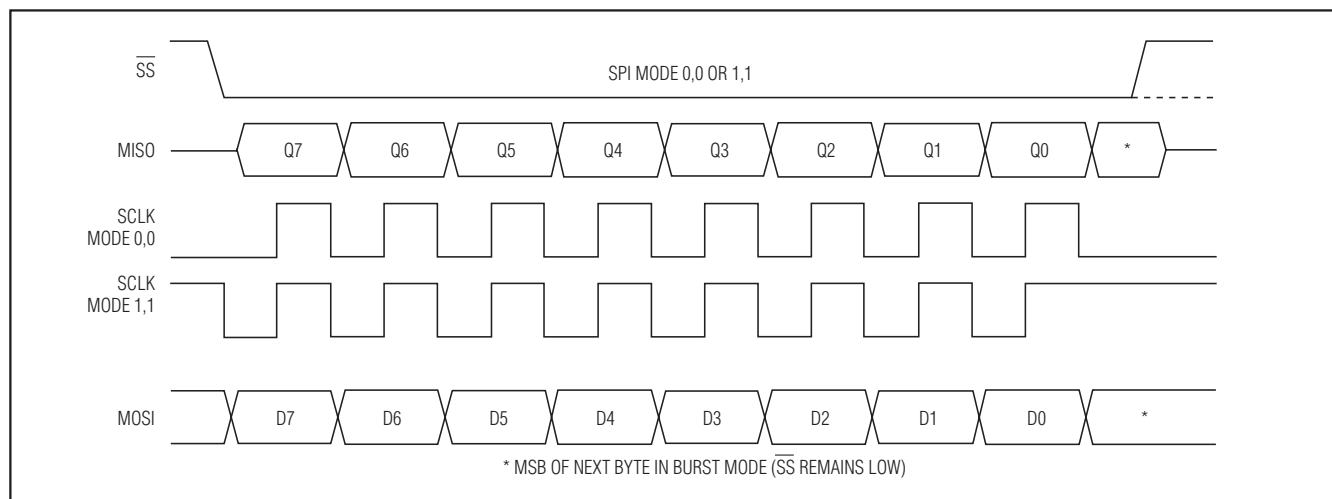

Figure 14. SPI Clocking Modes
The SPI master provides the MAX3420E SCLK signal to clock the SPI interface. SCLK has no low-frequency limit, and can be as high as 26MHz. The MAX3420E changes its output data (MISO) on the falling edge of SCLK and samples input data (MOSI) on the rising edge of SCLK. The MAX3420E ignores SCLK transitions when  $\overline{SS}$  is high. The inactive level of SCLK may be low or high, depending on the SPI operating mode (Figure 14).
The MAX3420E SPI interface operates without adjustment in either SPI mode (CPOL = 0, CPHA = 0) or (CPOL = 1, CPHA = 1). No mode bit is required to select between the two modes since the interface uses the rising edge of the clock in both modes. The two clocking modes are illustrated in Figure 14. Note that the inactive SCLK value is different for the two modes. Figure 14 illustrates the full-duplex mode, where data is simultaneously clocked into and out of the MAX3420E.
- (1) When  $\overline{SS}$  is high, the MAX3420E is unselected and tri-states the MISO output.
- (2) After driving SCLK to its inactive state, the SPI master selects the MAX3420E by driving  $\overline{SS}$  low. The MAX3420E turns on its MISO output buffer and places the first data bit (Q7) on the MISO output (Figure 14).
- (3) The SPI master simultaneously clocks the command byte into the MAX3420E MOSI pin, and USB status bits out of the MAX3420E MISO pin on the rising edges of the SCLK it supplies. The MAX3420E changes its MISO output data on the falling edges of SCLK.
- (4) After eight clock cycles, the master can drive  $\overline{SS}$  high to deselect the MAX3420E, causing it to tri-state its MISO output. The falling edge of the clock puts the MSB of the next data byte in the sequence on the MISO output (Figure 14).
- (5) By keeping  $\overline{SS}$  low, the master clocks register data bytes out of the MAX3420E by continuing to supply SCLK pulses (burst mode). The master terminates the transfer by driving  $\overline{SS}$  high. The master must ensure that SCLK is in its inactive state at the beginning of the next access (when it drives  $\overline{SS}$  low). In full-duplex mode, the MAX3420E ignores data on MOSI while clocking data out on MISO.